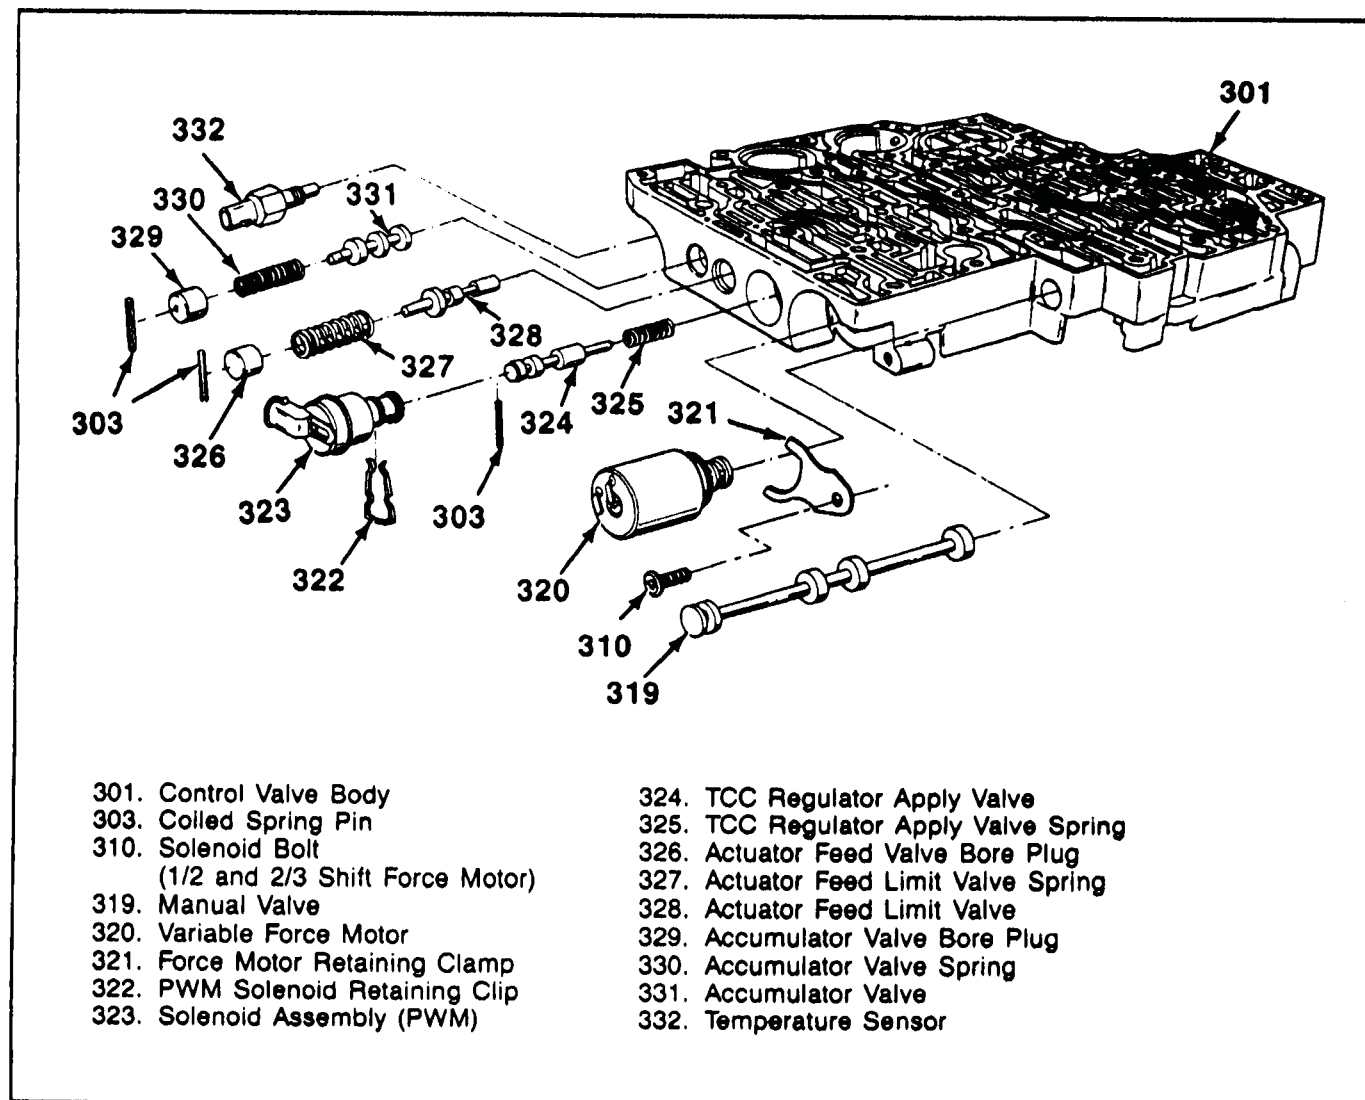

Figure 117
10. Use the illustrations in Figures 117 and 118, to reassemble the valves, springs, and bushings in their proper order.